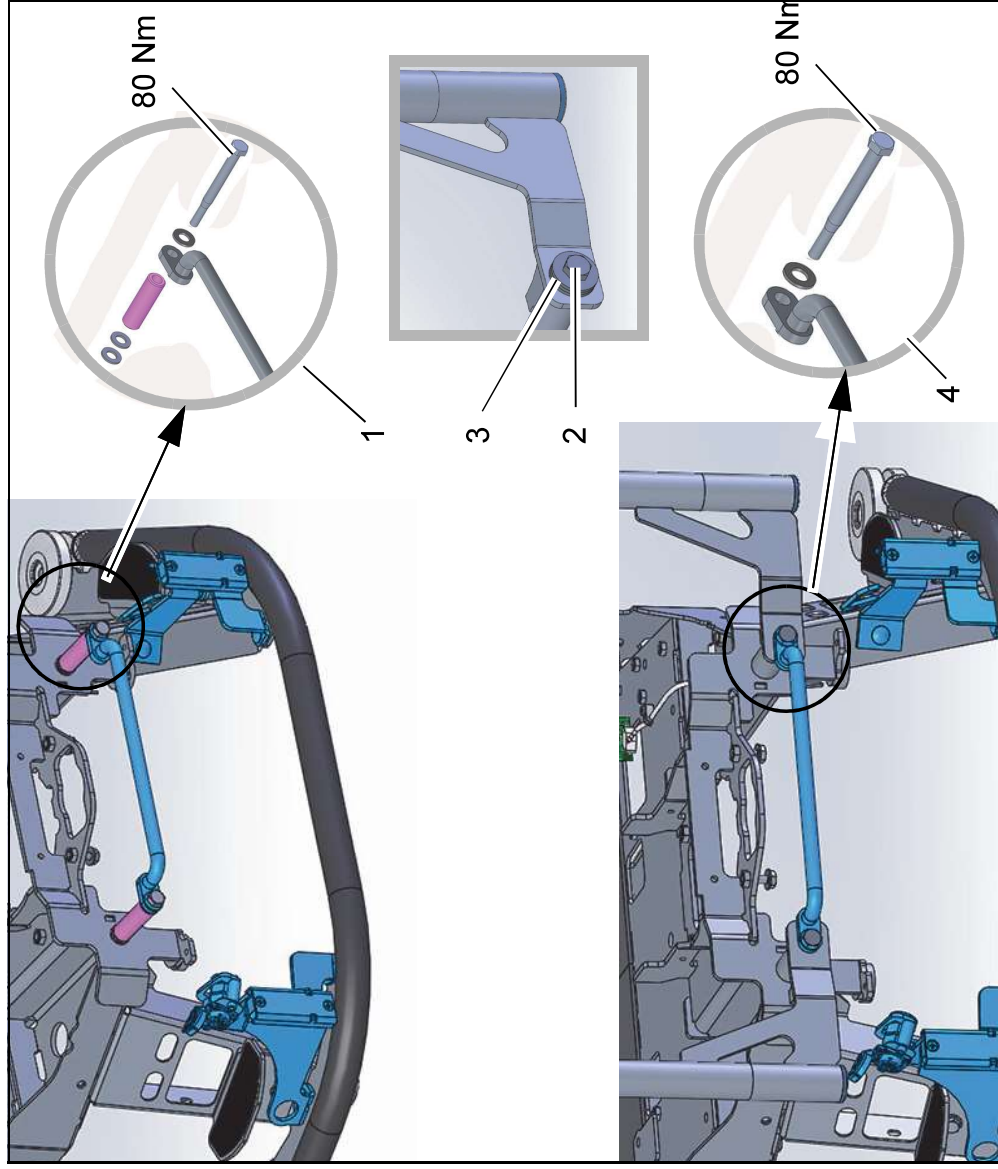

Fig. 2
Fit bracket to chassis, each with M12x120 screw, spacer and three A13 washers (Fig. 2/1).
1. Undo the two screws one after the other at the front of the overhead guard (Fig. 2/2) and remove the three existing screws (Fig. 2/3).
2. Screw bracket to holder of overhead guard using an A13 washer and the existing M12x120 screw (Fig. 2/4).